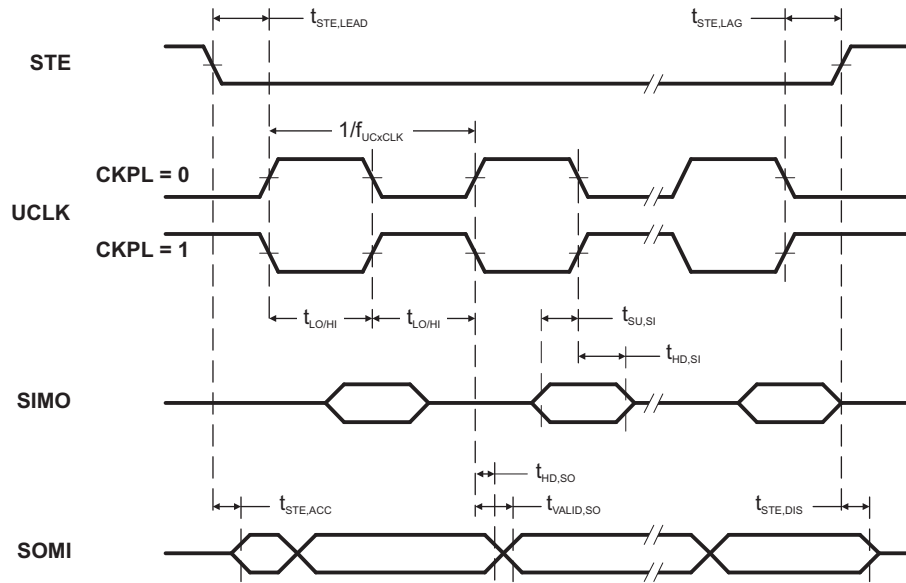
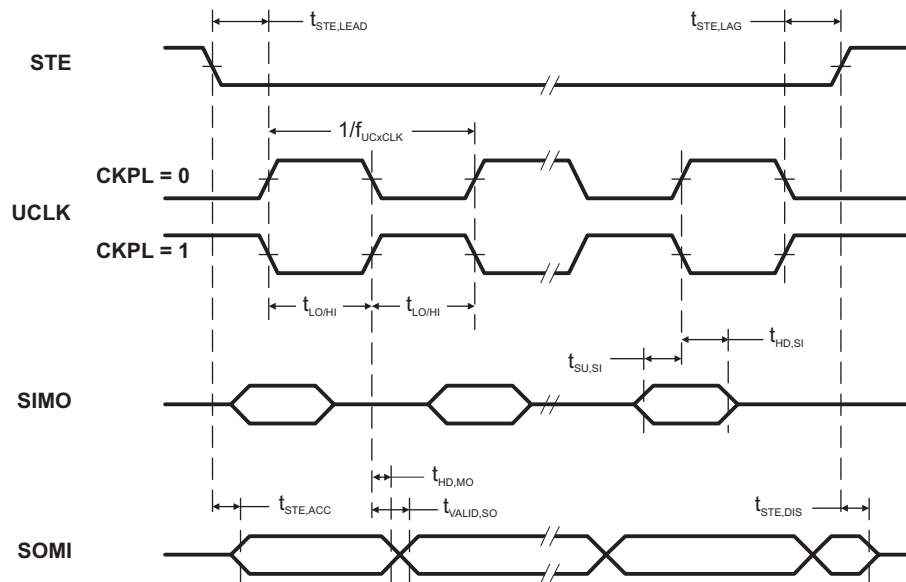

Figure 5-13. SPI Slave Mode, CKPH = 0
Figure 5-14. SPI Slave Mode, CKPH = 1
(see Note (1), Figure 5-13 and Figure 5-14)
- (2) Specifies the time to drive the next valid data to the SOMI output after the output changing UCLK clock edge. See the timing diagrams in Figure 5-13 and Figure 5-14.
- (3) Specifies how long data on the SOMI output is valid after the output changing UCLK clock edge. See the timing diagrams in Figure 5-13 and Figure 5-14.